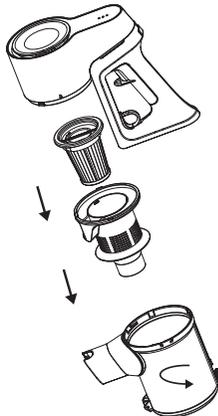

Figure 7-6
7.4 Refit the HEPA filter back onto filter housing and slide them back into dust cup then assemble in main unit after cleaning. See figure 7-6.